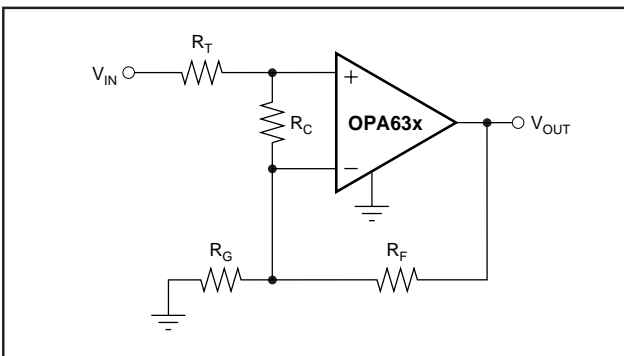

FIGURE 4. Compensated Non-Inverting Amplifier.
Figure 4 shows a non-inverting amplifier that reduces peaking at low gains. The resistor R_C compensates the OPA631 or OPA632 to have higher Noise Gain (NG), which reduces the AC response peaking (typically 5dB at $G = +1$ without R_C) without changing the DC gain. V_{IN} needs to be a low impedance source, such as an op amp. The resistor values are low to reduce noise. Using both R_T and R_F helps minimize the impact of parasitic impedances.
Since the OPA631 and OPA632 are voltage feedback op amps, a wide range of resistor values may be used for the feedback and gain setting resistors. The primary limits on these values are set by dynamic range (noise and distortion) and parasitic capacitance considerations. For a non-inverting unity gain follower application, the feedback connection should be made with a 25Ω resistor, not a direct short (see Figure 4). This will isolate the inverting input capacitance from the output pin and improve the frequency response flatness. Usually, for $G > 1$ application, the feedback resistor value should be between 200Ω and $1.5k\Omega$. Below 200Ω , the feedback network will present additional output loading which can degrade the harmonic distortion performance. Above $1.5k\Omega$, the typical parasitic capacitance (approximately $0.2pF$) across the feedback resistor may cause unintentional band-limiting in the amplifier response.
The criterion for setting this R_S resistor is a maximum bandwidth, flat frequency response at the load. For a gain of $+2$, the frequency response at the output pin is already slightly peaked without the capacitive load, requiring relatively high values of R_S to flatten the response at the load. Increasing the noise gain will also reduce the peaking (see Figure 4).
Resistors should be a very low reactance type. Surface-mount resistors work best and allow a tighter overall layout. Metal film or carbon composition axially-leaded resistors can also provide good high frequency performance. Again, keep their leads and PC board traces as short as possible. Never use wirewound type resistors in a high frequency application. Since the output pin and inverting input pin are the most sensitive to parasitic capacitance, always position the feedback and series output resistor, if any, as close as possible to the output pin. Other network components, such as non-inverting input termination resistors, should also be placed close to the package. Where double-side component mounting is allowed, place the feedback resistor directly under the package on the other side of the board between the output and inverting input pins. Even with a low parasitic capacitance shunting the external resistors, excessively high resistor values can create significant time constants that can degrade performance. Good axial metal film or surface-mount resistors have approximately 0.2pF in shunt with the resistor. For resistor values $> 1.5\text{k}\Omega$, this parasitic capacitance can add a pole and/or zero below 500MHz that can effect circuit operation. Keep resistor values as low as possible consistent with load driving considerations. The 750Ω feedback used in the typical performance specifications is a good starting point for design. See Figure 4 for the unity gain follower application.